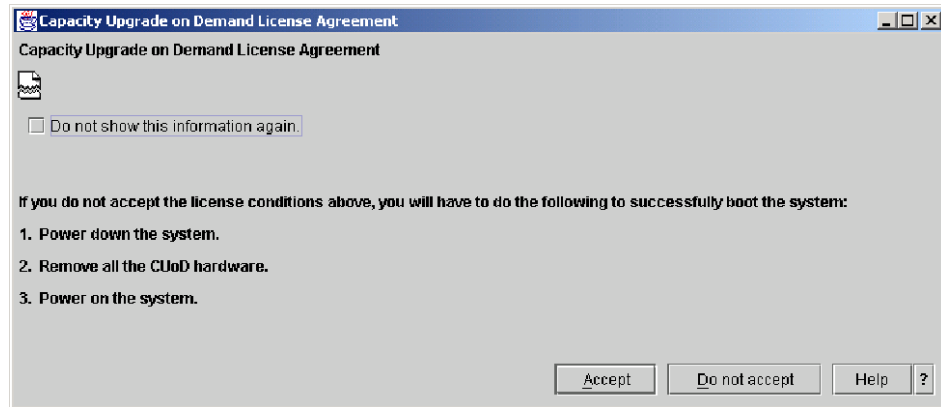

Figure 4-2 Click to Accept window
2. There are two possible responses to accept in the “Capacity Upgrade on Demand License Agreement” window (see Figure 4-2):